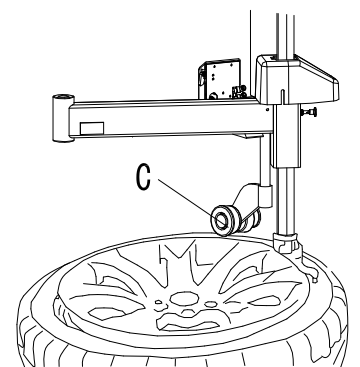

Fig 11
3. Nearby demounting/mounting head, insert lift lever N into tyre , use lift lever to lift bead upon knob of demounting / mounting head. Manually rotate roller C to inner side, pull handle D down, make roller C to press rim, keep 3-5mm gap between demounting/mounting head and rim, make sure demounting/mounting head not damage rim, rotate turntable, demount tyre upper bead (Fig 11)